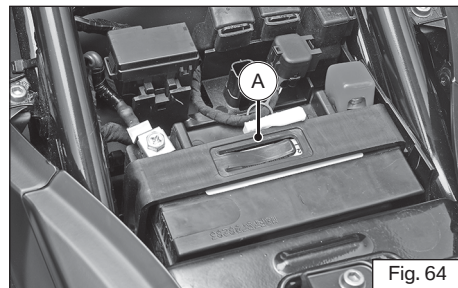

Fig. 64
- ♦ Remove the mounting bolt and take the battery holder (A) (ref. Fig. 64)